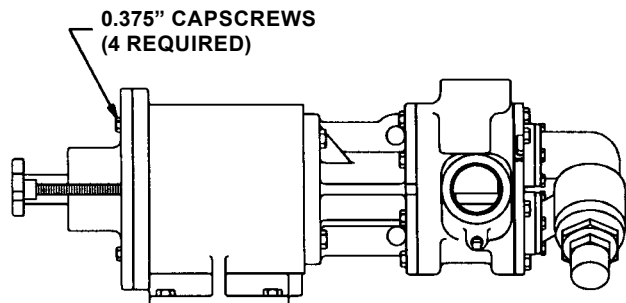

FIGURE 19
5. Install the (4) 0.375\" cap screws. Turn the output shaft over by hand to make sure the pump rotates freely. See Figure 19).